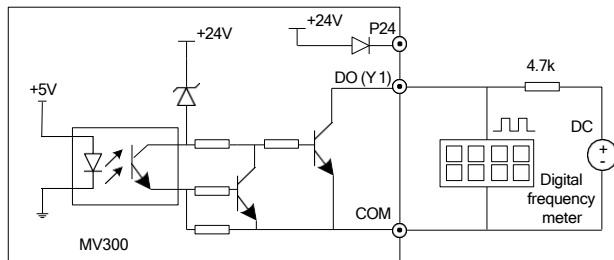

Fig. 3-20 Connecting mode 2 of output terminal DO
4. When the digital pulse frequency output DO (Y1 terminal used as DO) uses the external power supply, the wiring mode is as shown in Fig.3-20.